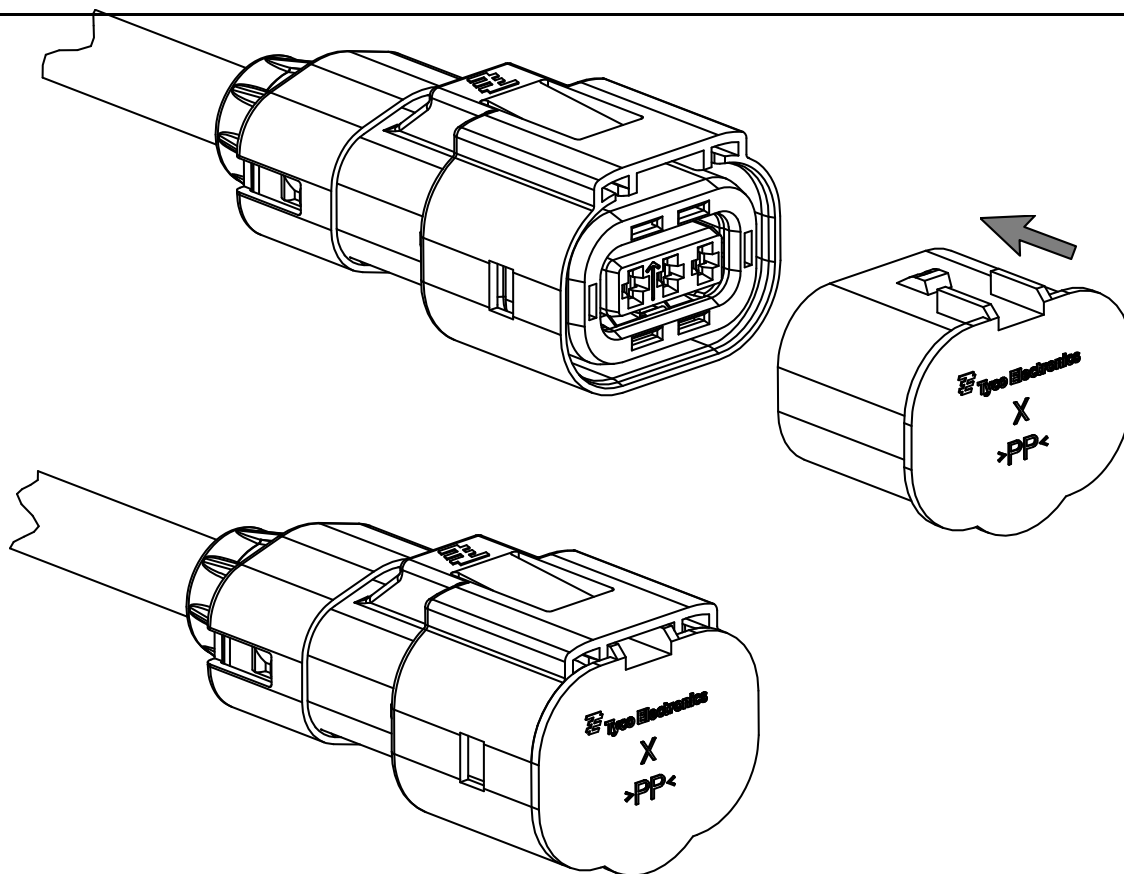

Figure 19
18. *Optional* - assemble the shipping cap into the plug assembly until it fully locks to the outer housing as shown in Figure 19. Gently pull back on the shipping cap to check that it is fully locked in place.